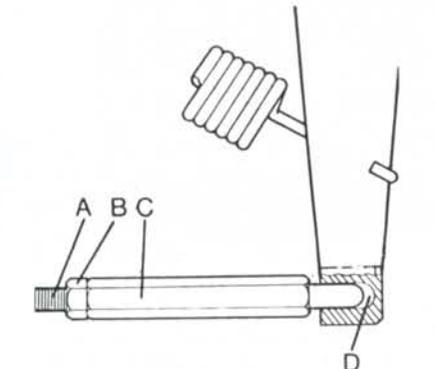

Fig. 156—View showing transmission clutch adjustment linkage for 1490 low profile tractors.
212. Transmission clutch free travel should be 4 mm (5/32 inch) measured at "D" (Fig. 156) between adjusting sleeve (C) and cross-shaft lever. Loosen locknut (B) and turn adjusting sleeve (C) on slave cylinder push rod (A) as necessary.